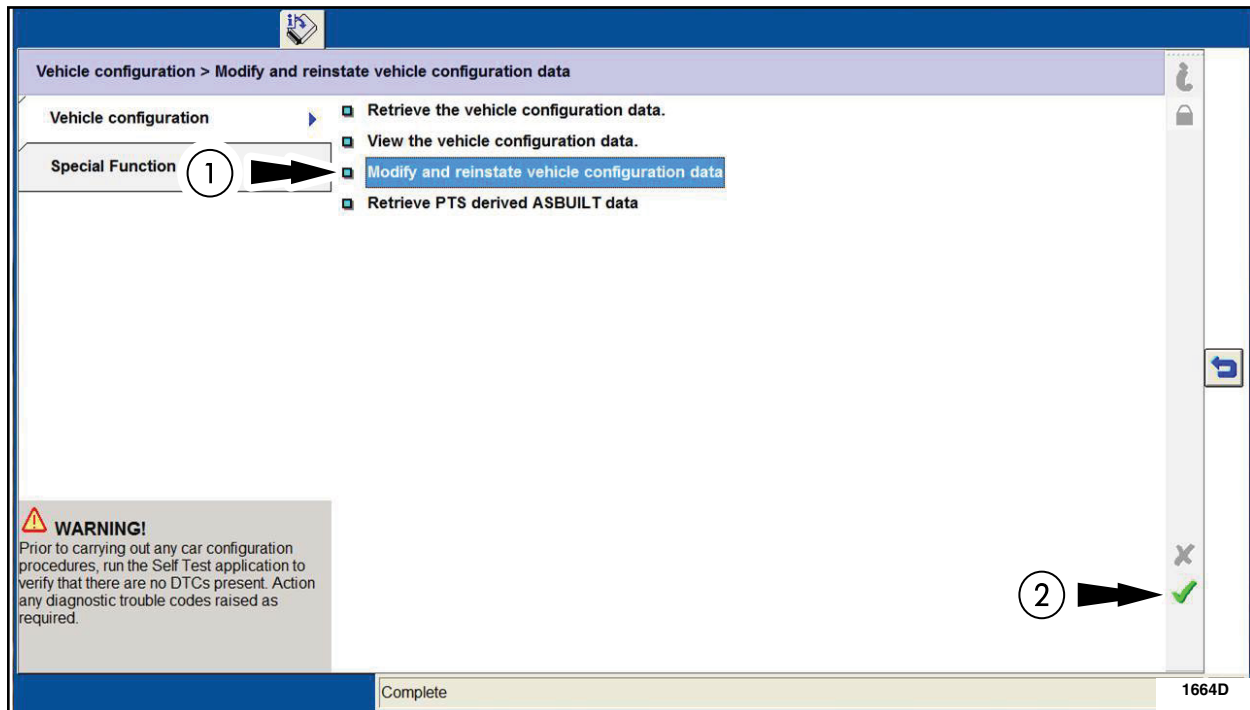

FIGURE 11
3. Select Modify and reinstate vehicle configuration data (1) and then click the tick mark (2). See Figure 11.